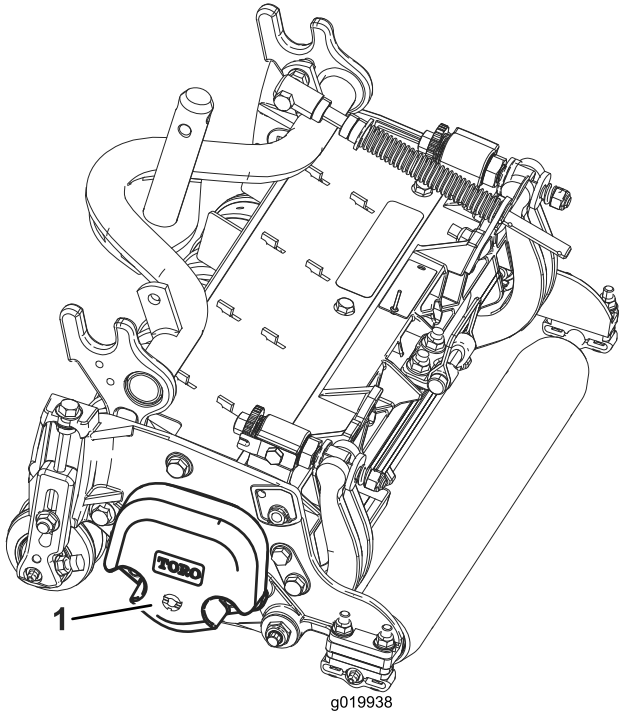

Figure 3
4. Make sure that the counterweight (Figure 3) is installed to the proper end of the cutting unit as described in the cutting unit Operator's Manual.